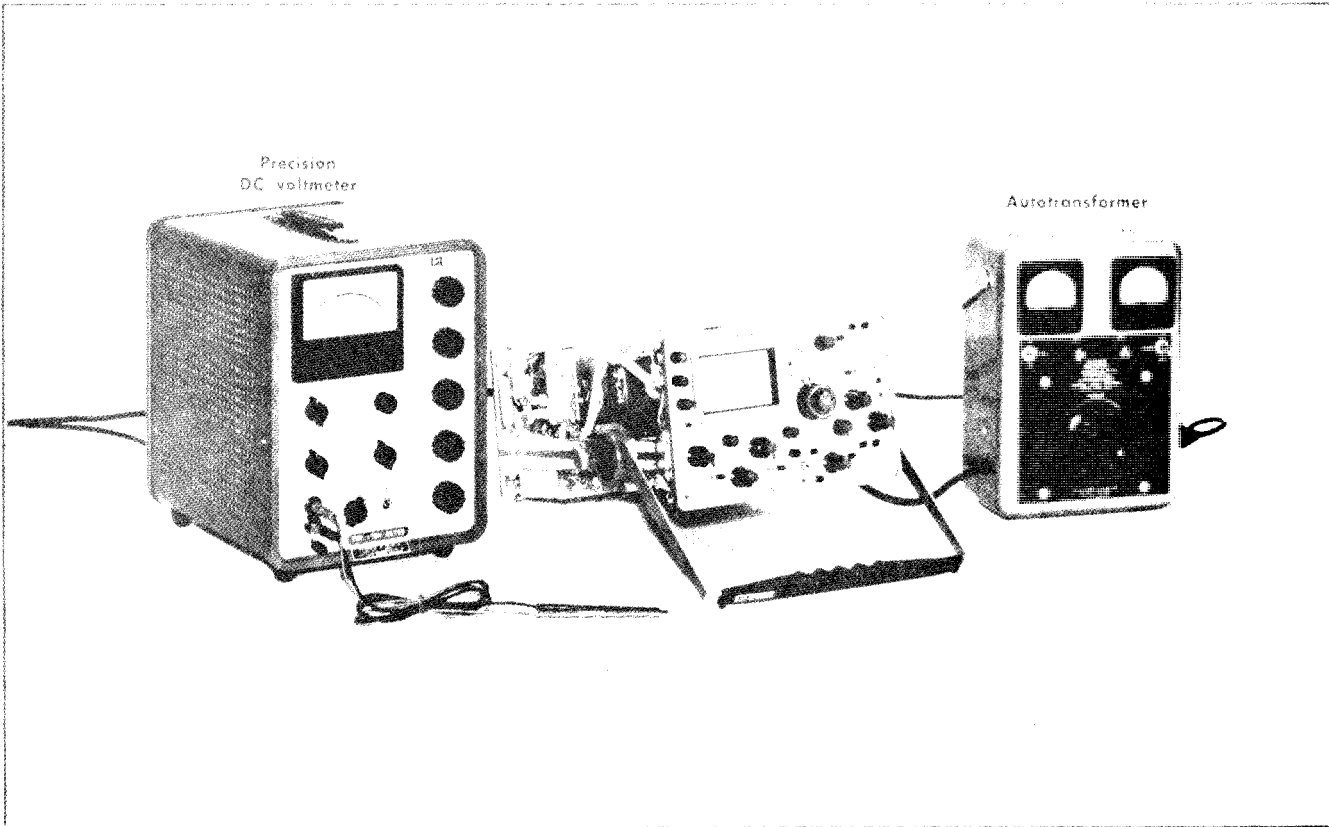

Fig. 6-3. Initial test equipment setup for steps 1 through 5.
1. Adjust - 12-Volt Power Supply ①
- a. Test equipment setup is shown in Fig. 6-3.